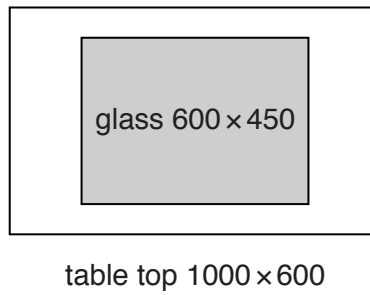

Fig. 17
- (g) Fig. 17 shows the area of the table top to be removed to allow for the 6 mm thick glass insert.